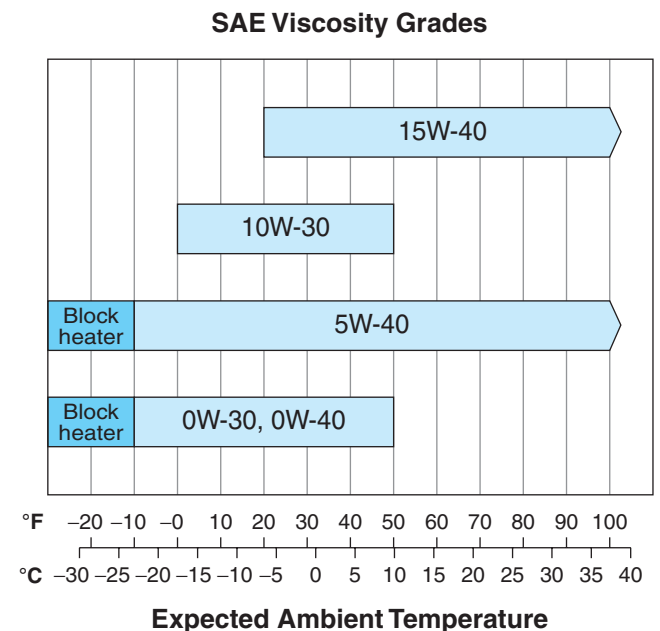

Figure 7-5 SAE viscosity grades and temperature ranges for 2007 engines. (Courtesy of Navistar International Trucks)
The following list contains the SAE engine oil grades and the recommended temperature operating ranges. **Figure 7-5** shows the temperature range for some common SAE viscosity grades. The W denotes a winter grade lubricant.
- 15W-40 Recommended for use in climates where temperatures never fall below 15°F (−9°C). Despite this and diesel engine OEM recommendations that support the use of lighter multigrades in winter conditions, this is by far the most commonly used viscosity grade for commercial diesel engines year-round, often in climates that have severe winters. A true 15W-40 engine oil will freeze to a grease-like consistency in subzero conditions, making the engine almost impossible to crank; additionally, engine wear is accelerated during the warmup phase of operation. **Figure 7-5** is a Navistar schematic showing their recommended viscosity grades by temperatures: note that 15W-40 lube is not recommended by Navistar for engines operating below 20°F (−6°C).